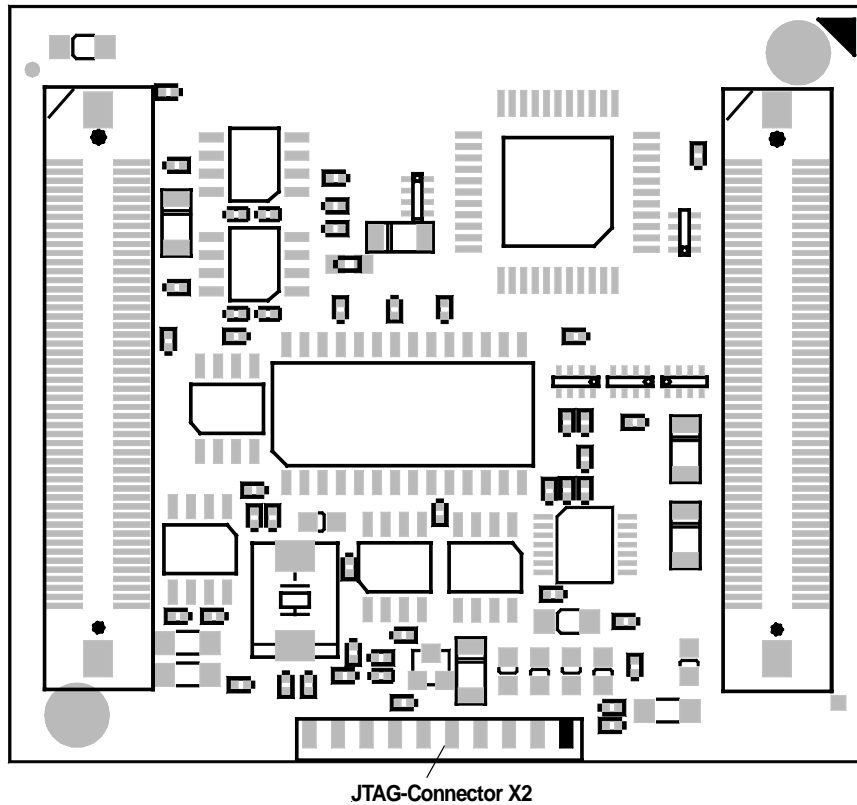

Figure 2: JTAG Connector X2 on the phyCORE-AT91M55800A (Bottom View)
- Connect the other 2.0 mm cable connector onto pin header rows X2 on the phyCORE module. Make sure that pin #1 on the ULINK cable (black wire) is correctly connected to pin #1 on the JTAG connector X2 (located on the connector side of the PCB) of the phyCORE-AT91M55800A (refer to Figure 2).